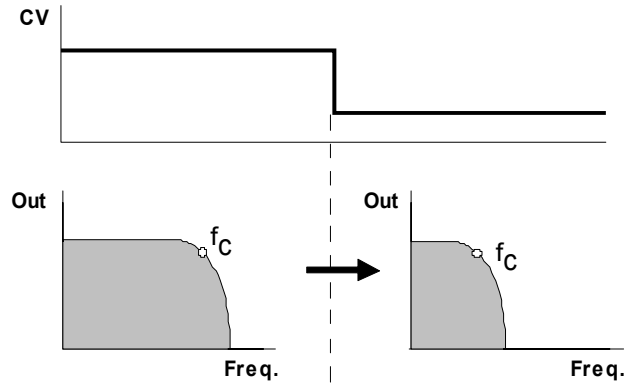

Fig. 1: White noise put through a low pass filter
With this control you adjust the **Cut-Off Frequency f_c** , above which the filter attenuates all frequencies. At 10, the filter is fully open. The more you 'close down' the filter, the more the high frequencies are filtered (see Fig. 1): the sound becomes mellower and less bright, until at 0 the filter is completely shut down, and there will be no output signal at all.
③ FCV
For voltage control or modulation of the cut-off frequency using CV input ③ (see Fig. 1), use attenuator ③ to control the **level of voltage control**.
④ QCV